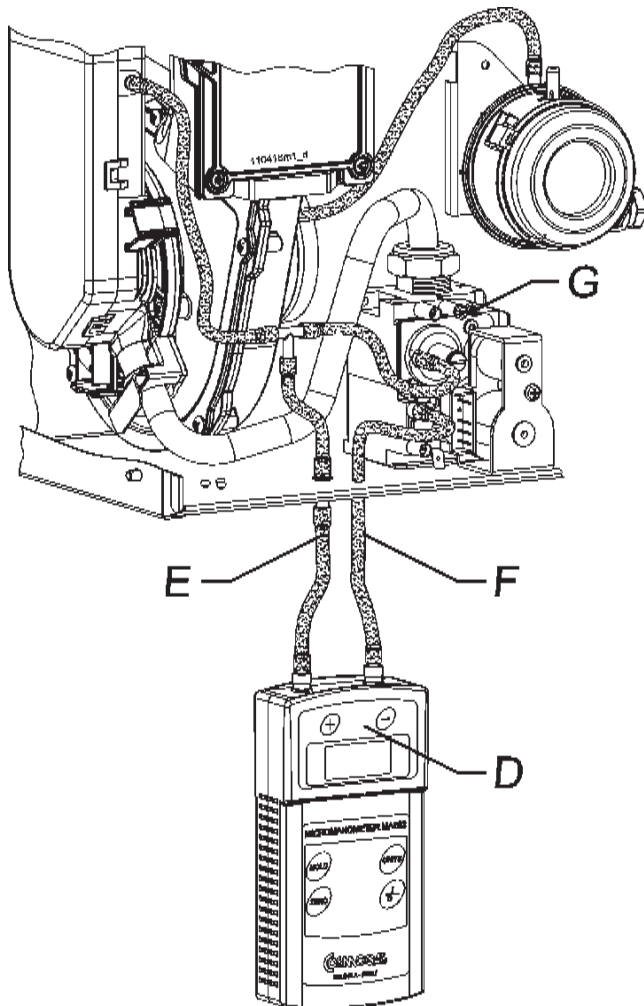

Figure 37 - Checking the combustion air pressure
- insert tube "F", from the negative side of the manometer, through the opening of plug "B", and connect it to pressure probe "C" as shown in figure 37;
- the manometer connections must be made as shown in figure 37, to get the correct pressure reading;